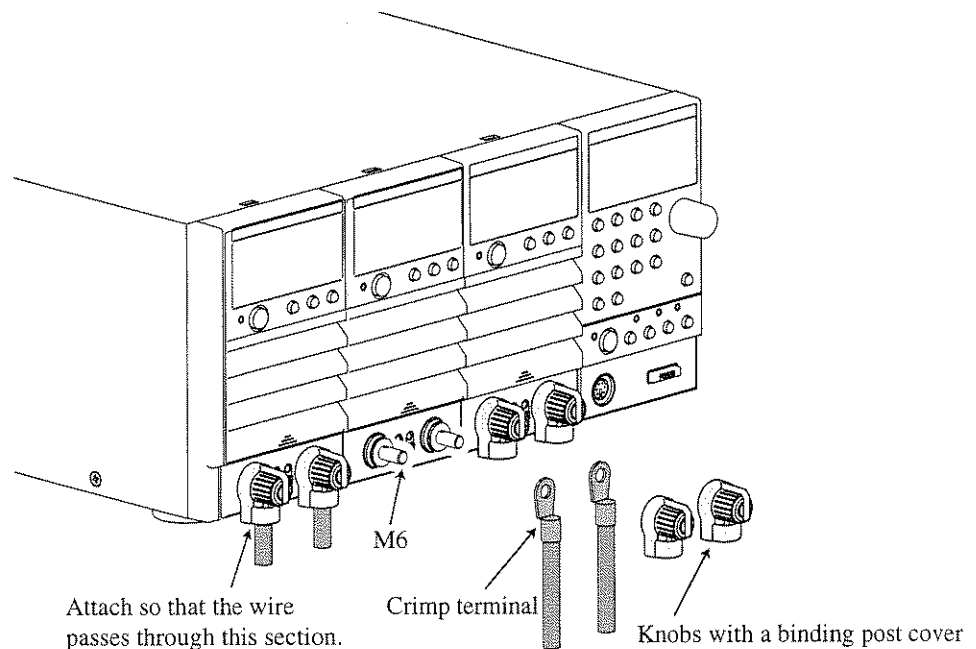

Fig. 2-15 Connection to the load input terminal on the front panel
3. Connect the load wire to the load input terminal on the front panel. For the connection procedure of the load wire, see Fig. 2-15.